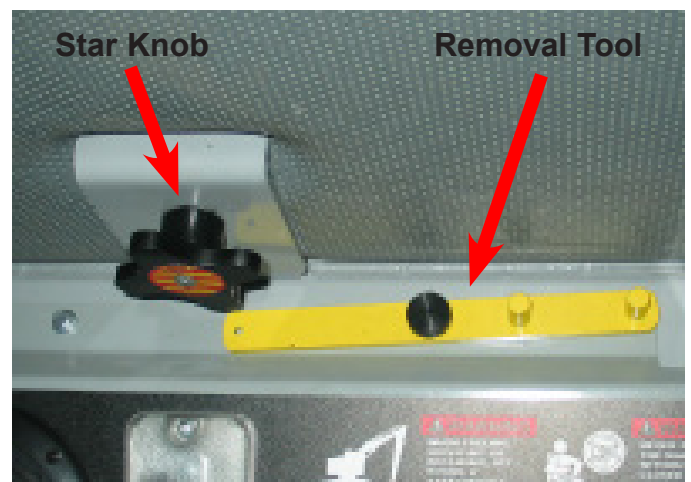

Figure 2 - Star Knob Removal Tool
- 2) Roof Escape Hatch** - The Roof Hatch can be removed by loosening the star knob located inside the operators cab or from the outside on the top of the hatch. In case the star knobs become stuck. There is a star knob removal available. (see figure 2)
- 3) Front Window Hatch** - The Front Window Hatch can be removed by loosening the star knob located inside the operators cab. In case the star knobs become stuck. There is a star knob removal tool available. (see figure 2)